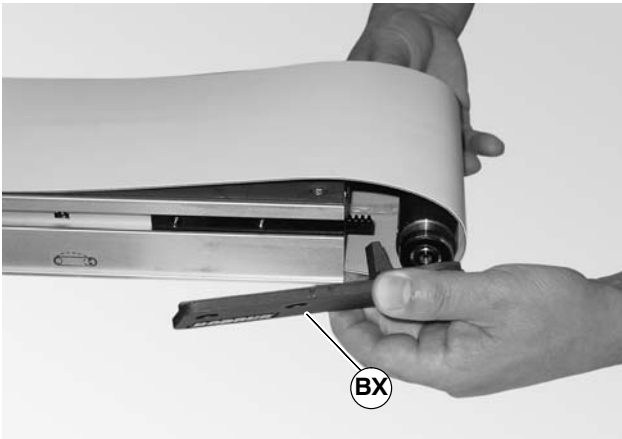

Figure 52
2. Place the head plate (BX of Figure 52) and attach the head plate to the conveyor frame with the two (2) plates removed. tighten screws 60 in-lb (7 Nm).